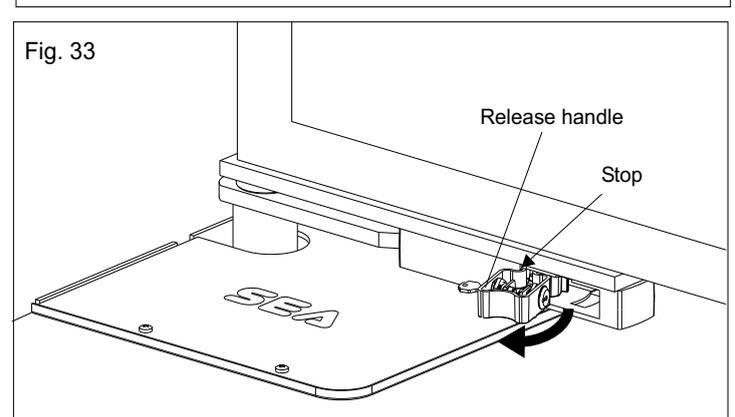

Fig. 33
- Pull the key against the external of the release making come out the handle of the lock until it reaches the stop (Fig.33).